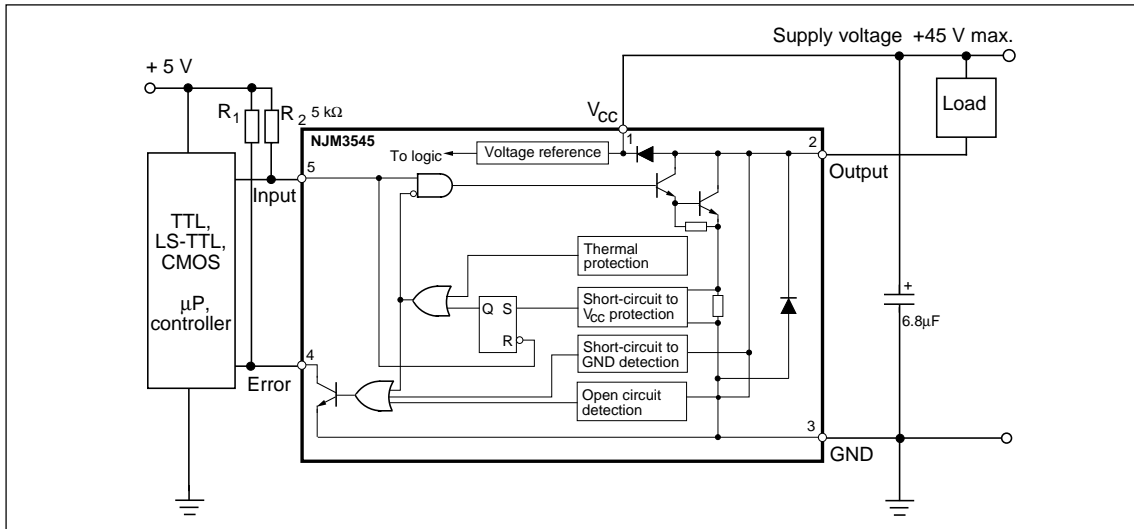

Figure 11. Typical application. Pin numbers refer to TO 220 package
3. Connect Input and Error via pull-up resistors to the appropriate logic supply level or V_{CC} to obtain highest noise immunity. See figure 11. The resistor R_1 limits the current into the Error indicating pin. This current must not exceed 8 mA. R_2 is a pull-up resistor which improves noise immunity at the Input. Pull-up current should not exceed the sinking capacity of the controlling device output.